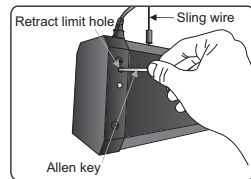

Figure 23
1. Retract limit adjusting. Take off the knob from the whole and then use the provided allen key to adjust. If it goes clockwise the housing would raise, to adjust anticlockwise the housing would lower down. (Figure 23)